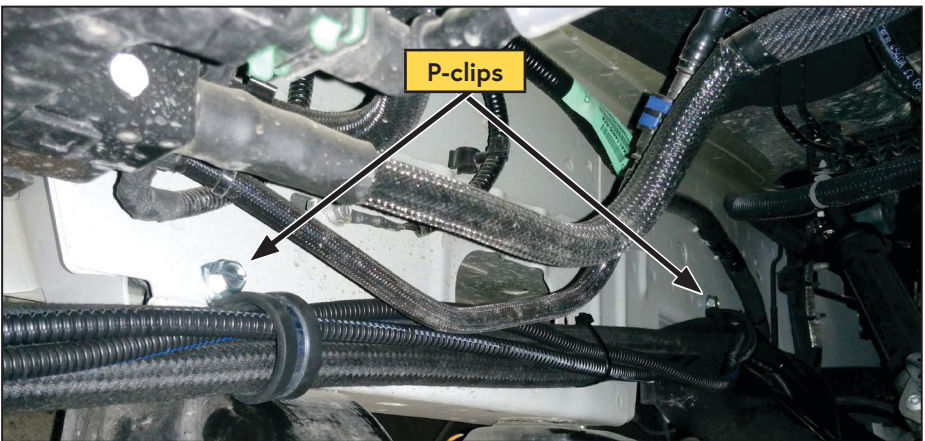

Figure 40 — Hose routing along inside of driver side frame
- Route the hoses along the inside of the driver side frame rail and secure them using the 2 supplied P-clips and 5/16 in x 3/4 in sheet metal screws in the existing holes on the frame (Figure 40).